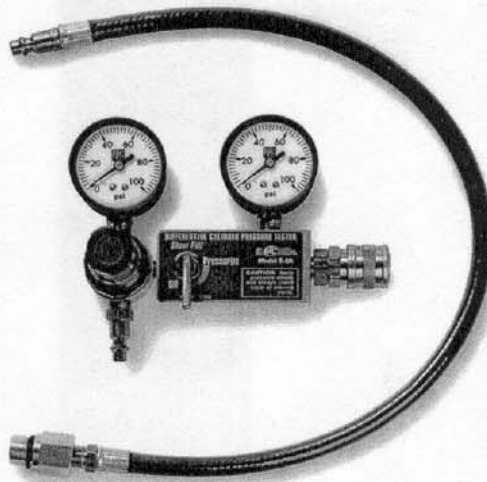

FIGURE 2
- Eastern Technology Corporation Model E2A①. See Figure 2.